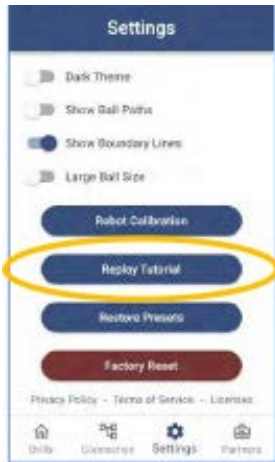

Figure 3-17
3.3.3 – Replay Tutorial (Figure 3-17)